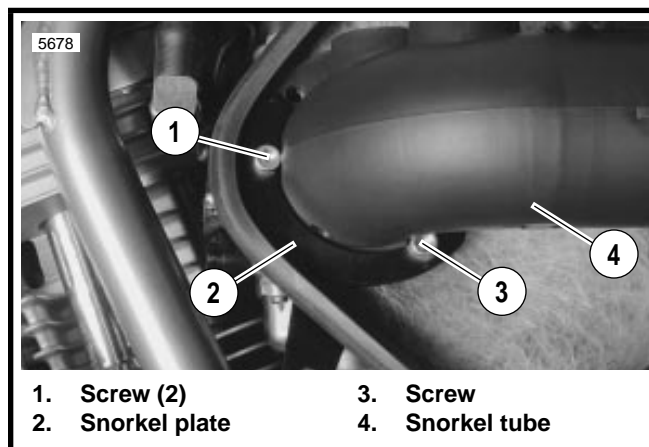

Figure 4-17. Snorkel Ring
4. See Figure 4-17. Remove two screws and snorkel plate.
5. See Figure 4-17. Apply LOCTITE THREADLOCKER 242 (blue) to screws. Fasten snorkel tube with ring and two screws. Tighten to 6-8 ft-lbs (8.1-10.8 Nm).